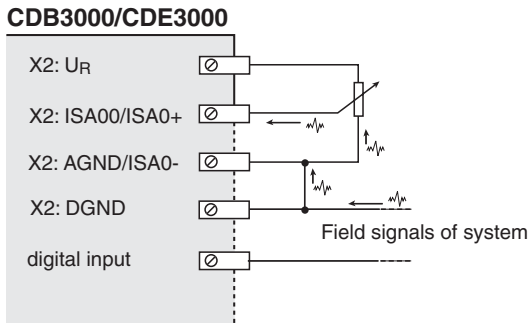

Fig. 3.13 Disturbing influence on the analog input in case of inappropriate wiring
**Attention:** The ground connection or introduction into the unit must not use the analog ground terminal 4 on CDB3000 (terminals 4, 6 on the CDE3000). The connection must only be made via the DGND -terminals (see Fig. 3.13).